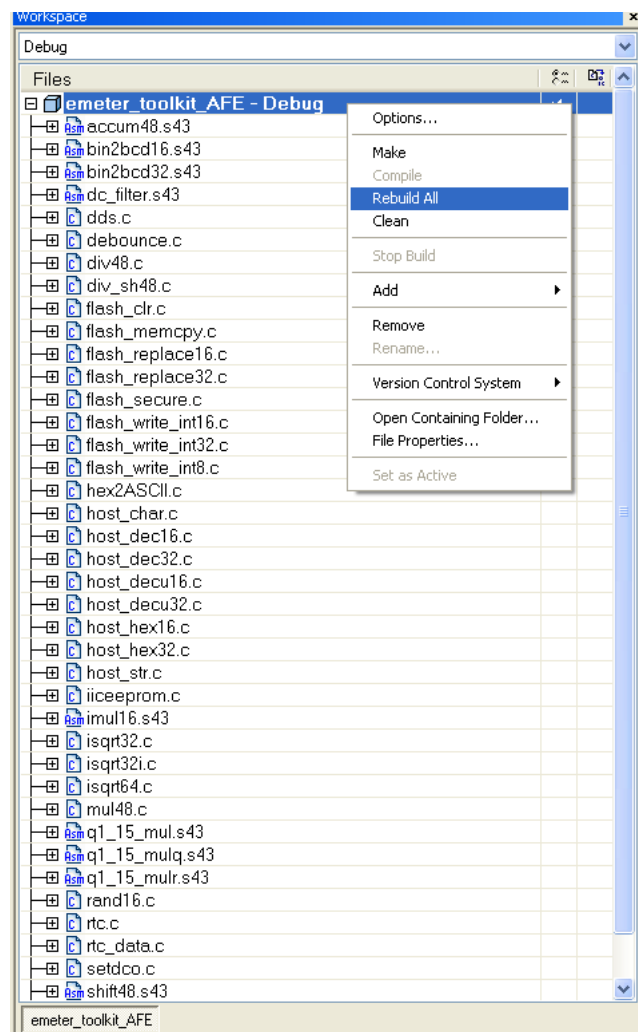

Figure 19. Toolkit Compilation in IAR
1. Open the *IAR Embedded Workbench*, find and load the *emeter_toolkit_AFE.ewp* project, and *Rebuild All*, as shown in Figure 19.